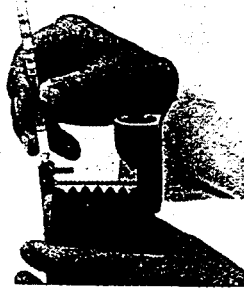

Fig. 3
2. Break off both tips of the DRÄGER Tube in the break-off eyelet (Fig. 3) or in the break-off husk (Fig. 4).